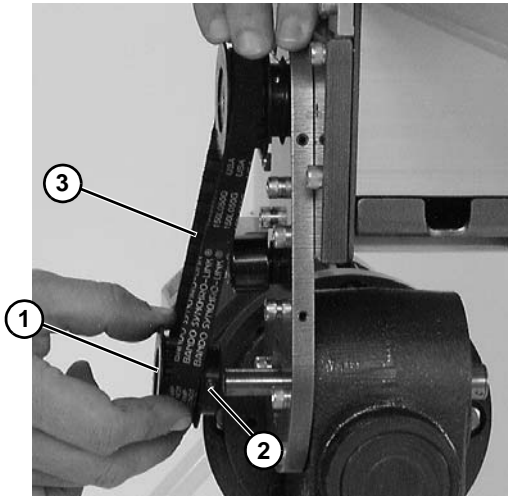

Figure 17
If drive pulley (**Figure 17, item 1**) is replaced, wrap timing belt around drive pulley and complete step 3.
3. Loosen drive pulley set screws (**Figure 17, item 2**). Remove drive pulley (**Figure 17, item 1**) and timing belt (**Figure 17, item 3**).